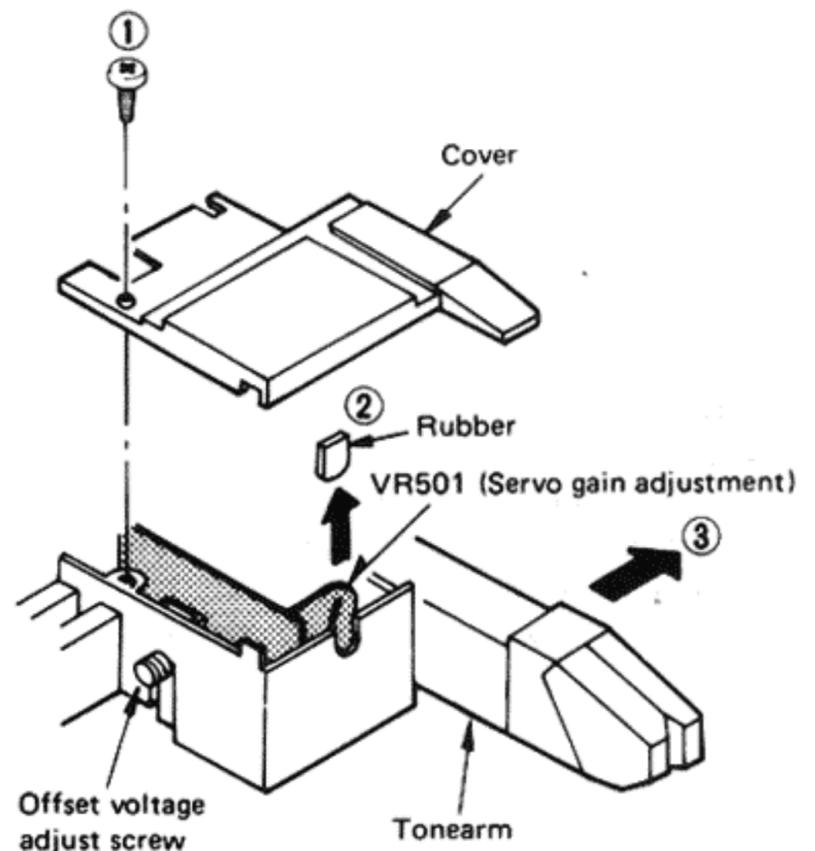

Fig. 4
2. Disassembly the tonearm as in Fig. 4.